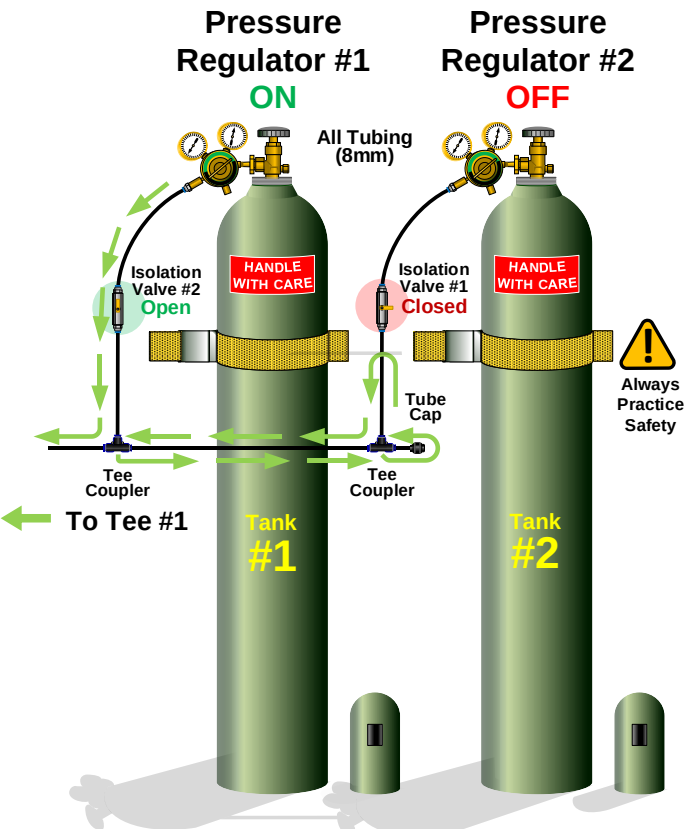

Figure 15
15.4 When you are ready to begin the Fiber Bundle installation operations, first open Isolation Valve #1. Perform normal installation procedures as described in this SRP. **See Fig. 15**